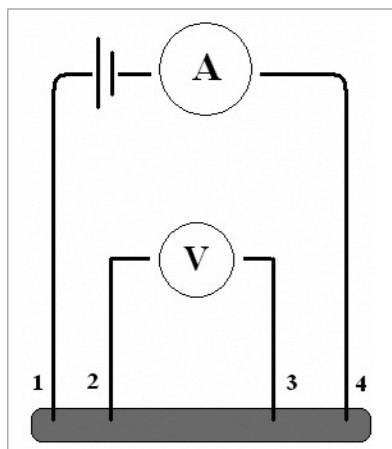

Figure 3: A block diagram showing the Kelvin sensing method.
Figure 2: An early Kelvin bridge for making accurate resistance measurements of very low-ohm resistors supply current through resistor X, while the inner leads isolate the measuring circuit. It is easier to see the Kelvin sensing principle in Figure 3.
By separating the main current path from the measurement path, Kelvin improves measurement accuracy. In Figure 3, the main current to be measured flows from the battery on the top left through the ammeter (A), and the voltage drops across resistor “X” (the gray bar at the bottom) between leads 2 and 3. Virtually no current flows through the voltmeter